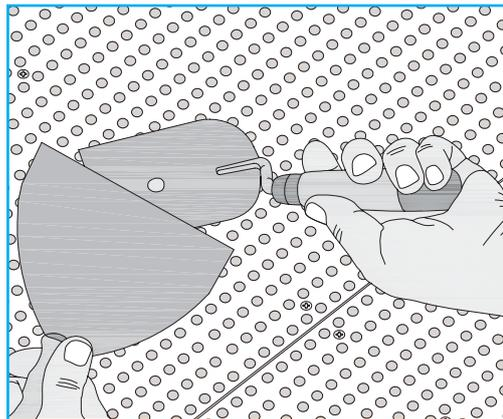

FIGURE 13 Filling of Screw Heads (if no Caps used)
- Fill screw heads with MastaLite. [Figure 13]